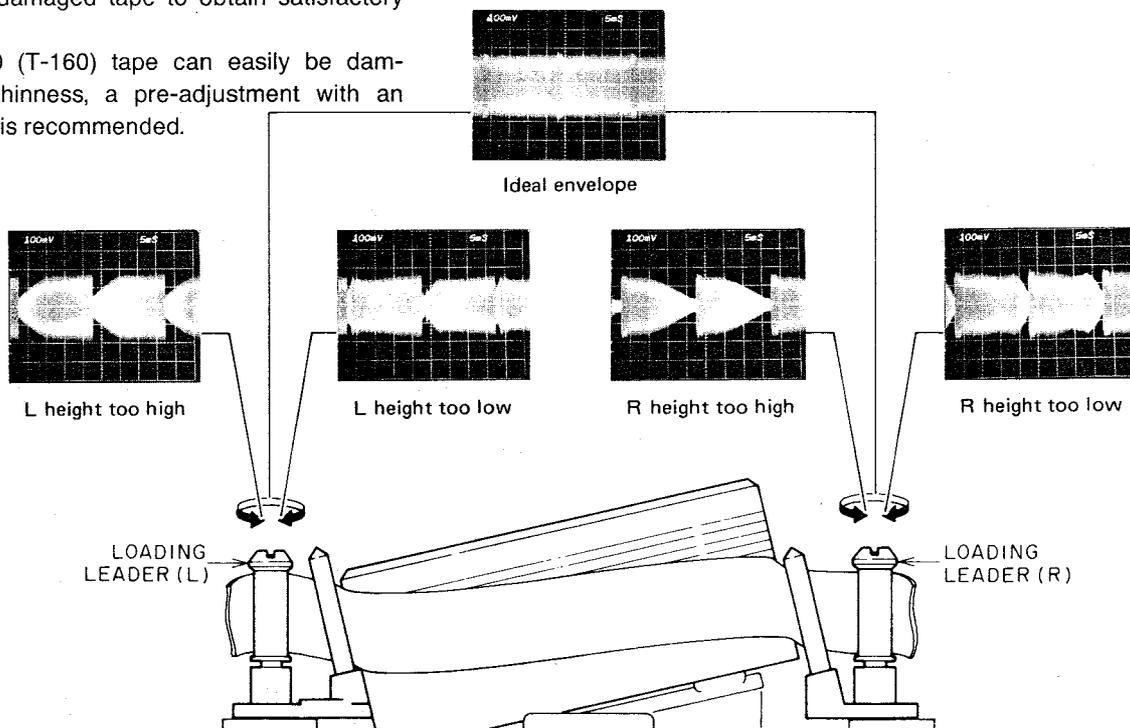

Fig. 4-12
- 4) Turn the LOADING LEADER heads with a flat head (➔) screw driver to obtain flat RF envelope as ideal envelope as shown in Fig. 4-12.